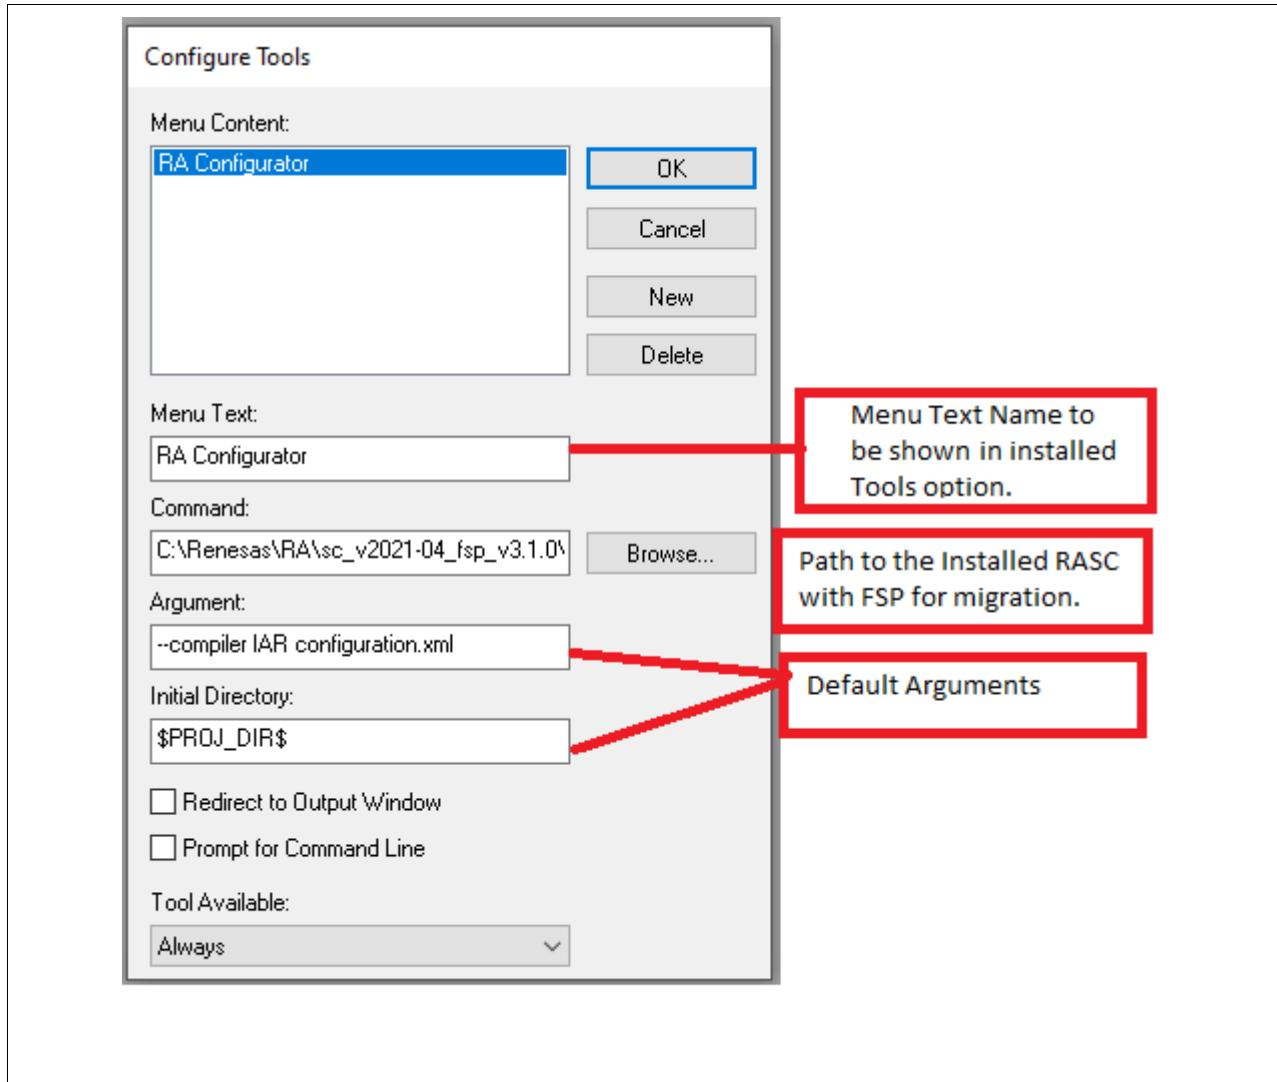

Figure 7. Configure Tools Options
- When you click the **Configure tools** → **New** option, the following window appears. Configure the related fields as shown in Figure 7.
- Set the **Configure Tools** options as shown in Figure 7, as described below: